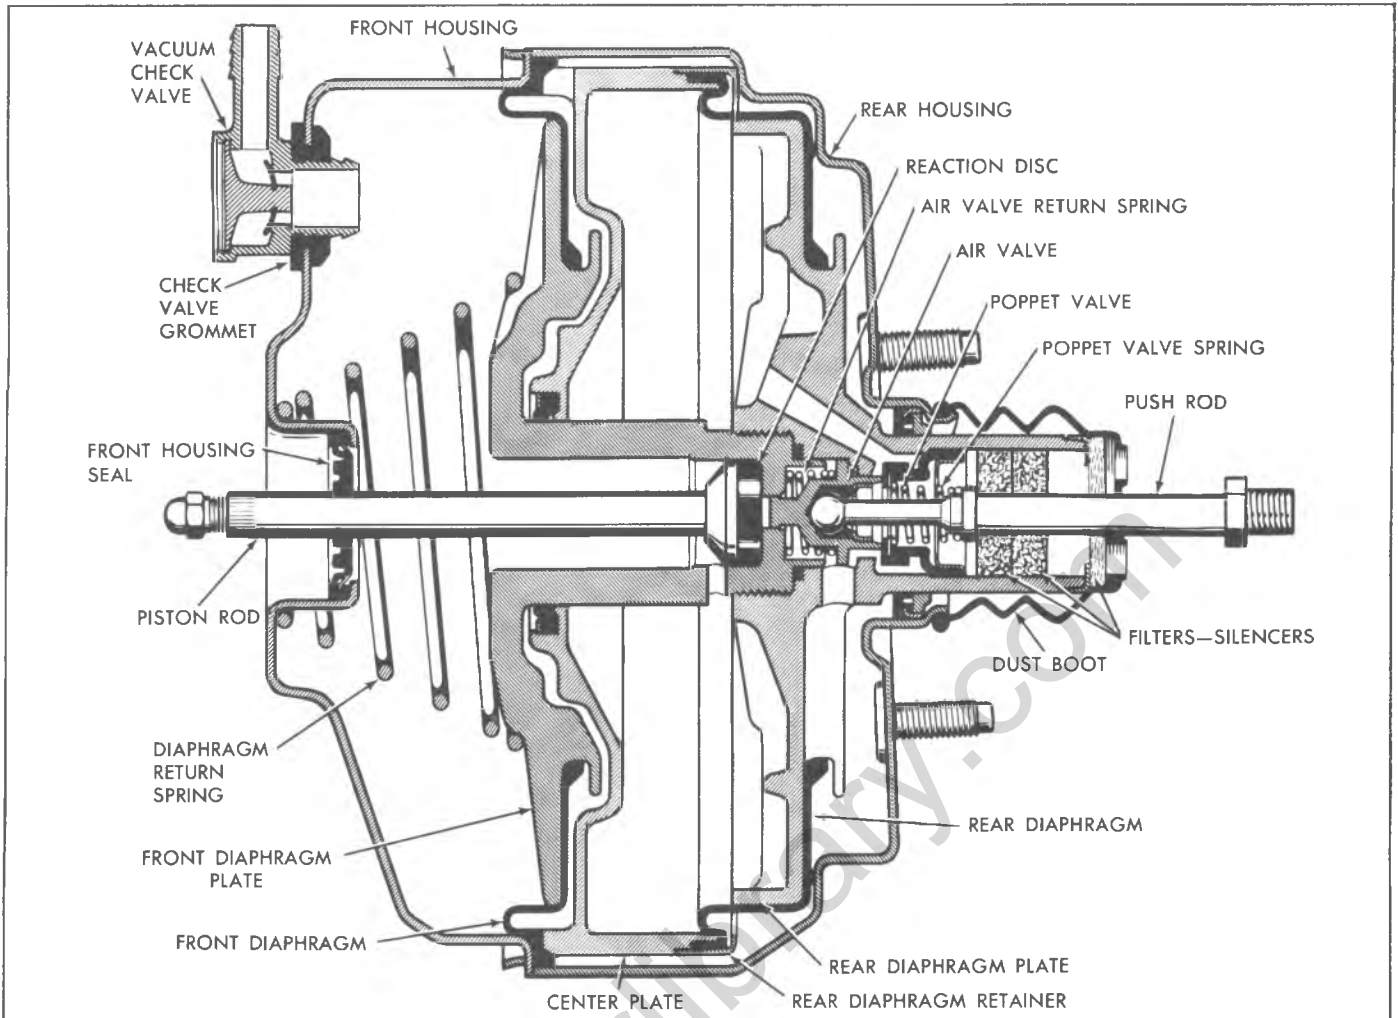

Fig. 1D—Bendix Dual Diaphragm Cross Section
Disassembly (Figs. 1D and 2D)
2. Remove two (2) master cylinder attaching nuts and remove the master cylinder.
3. Remove the front housing seal (fig. 1D); pulling the piston rod from the front housing will also remove the seal. Separate the piston rod and seal.
9. Install end of air valve push rod in vise, leaving enough clearance to position two (2) open end wrenches between the vise and retainer on hub of rear plate.